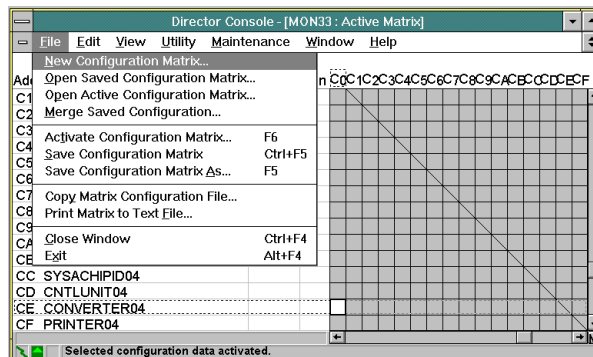

Figure 1-32. File Menu (Active Matrix Window)
- **File:** This menu (Figure 1-32) provides options to create a new matrix, open a saved matrix, open the active matrix, merge a saved matrix onto the active matrix, activate a matrix, save a matrix, save a matrix under a new name, and print a matrix to a text file. This menu also provides an option to copy a matrix to a diskette, the Console's fixed disk, or another Director's library.